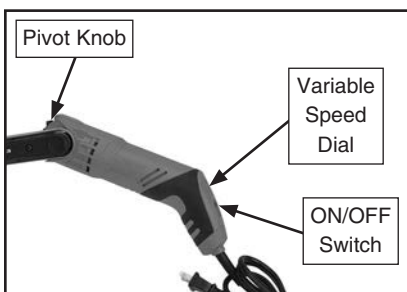

Figure 9. Sander controls.
4. Hold sander with both hands and push ON/OFF switch to "I". Turn variable speed dial to set desired belt speed (see **Figure 9**).